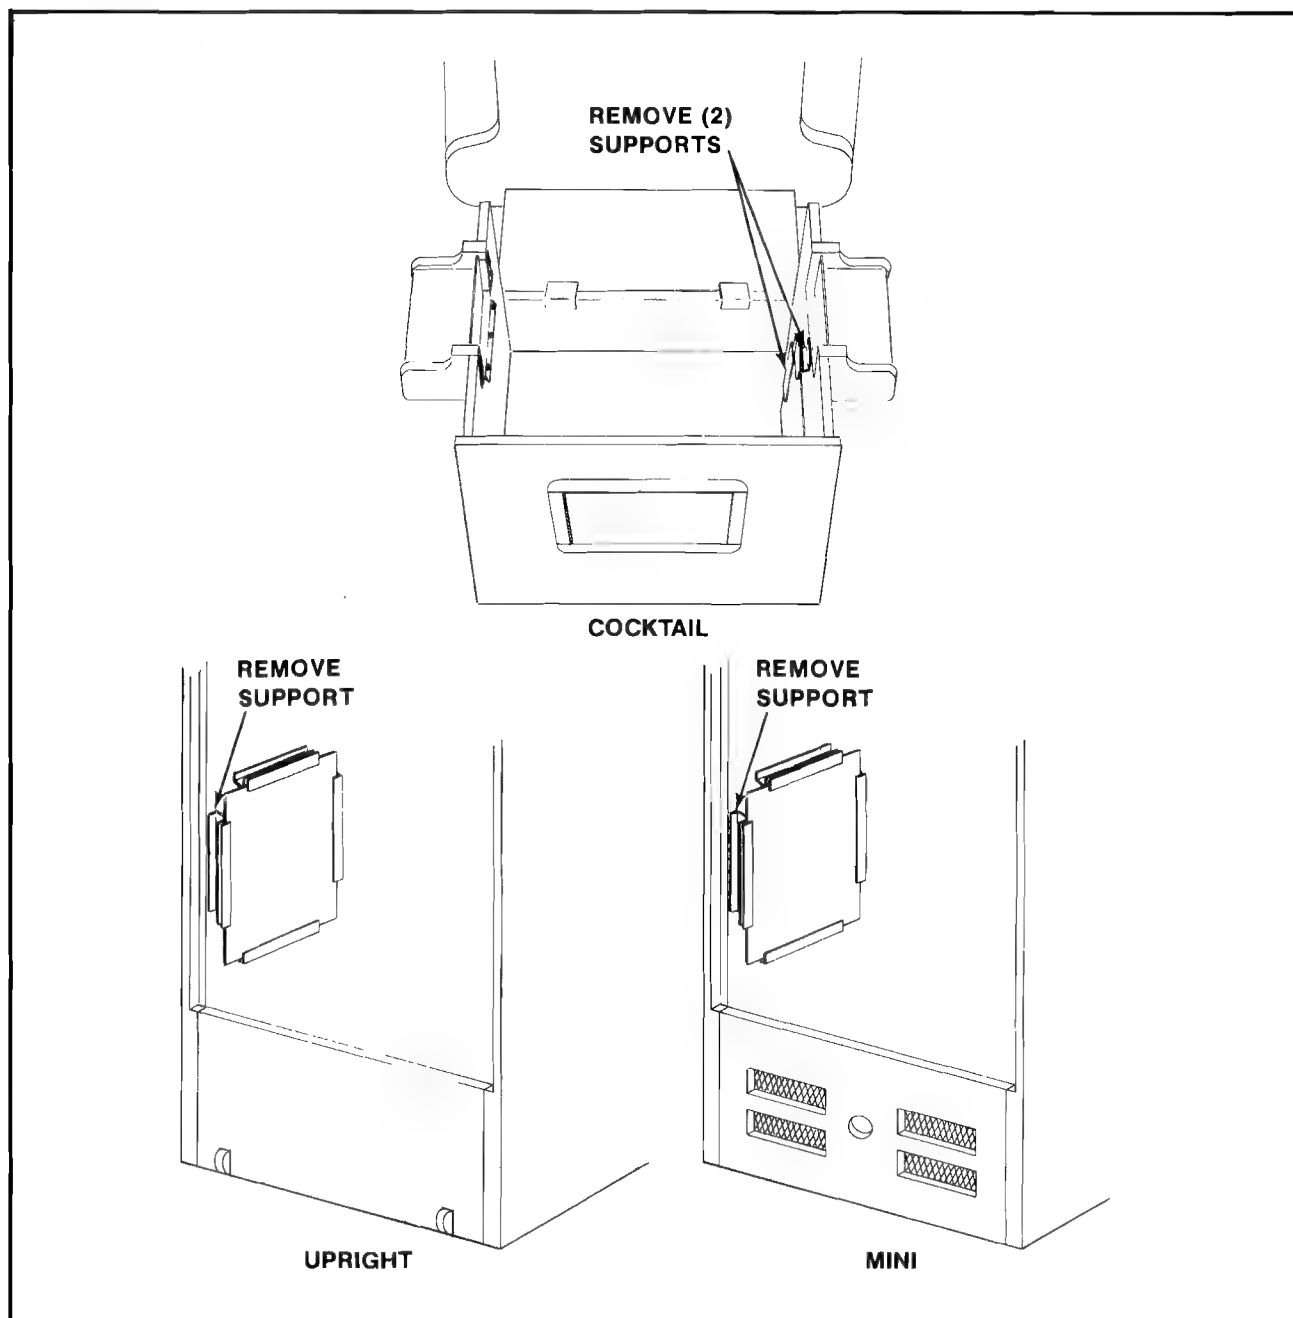

Figure 3-12 Removing P.C.B.'s
1. UPRIGHT MODEL: See Figure 3-12.
- ☐ Disconnect the linear power supply board from all its cabling, remove the P.C.B. supports indicated in Figure 3-12, and slide the linear power supply board out the back of the cabinet.
2. MINI MODEL: See Figure 3-12.
3. COCKTAIL TABLE MODEL: See Figure 3-12.
- ☐ To remove the linear power supply board. See Figure 3-12.